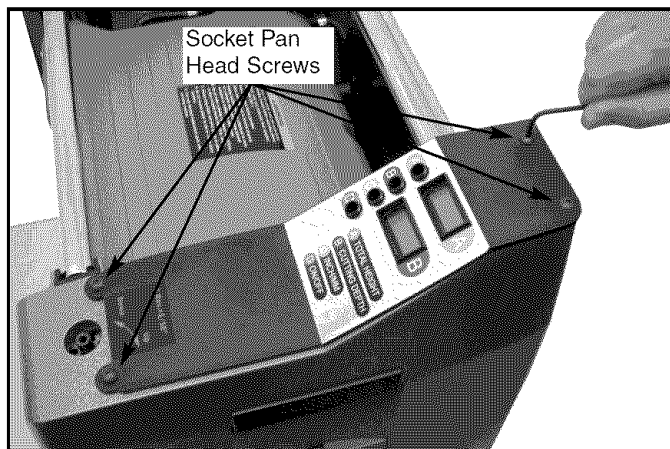

Figure 2 – Remove Display Panel
- Loosen and remove four socket head pan screws and then remove the display panel cover (see Figure 2).
- Insert four (4) C batteries (not included). Make sure to install the batteries using the correct polarity (i.e., the “+” symbol on the battery aligns with the “+” symbol on the battery holder).